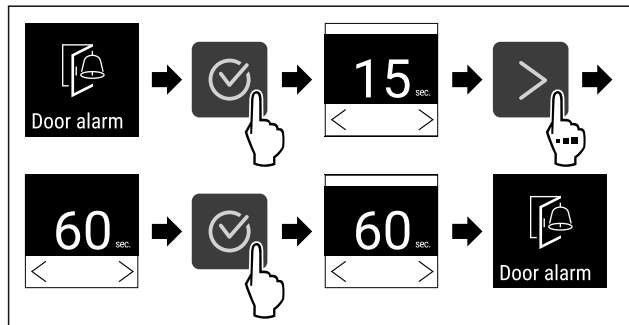

Fig. 140
- ▶ Carry out steps (see Fig. 140).